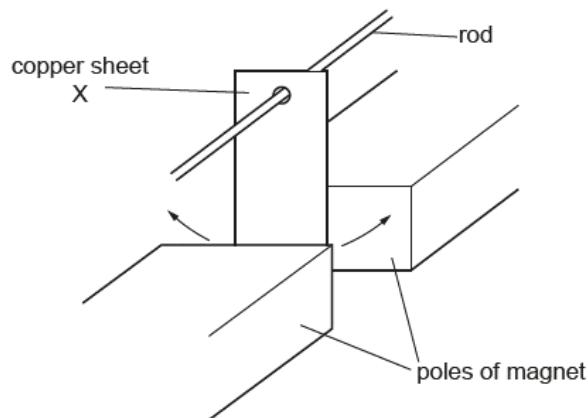

Fig. 7.3
- (b) A thin copper sheet X is supported on a rigid rod so that it hangs between the poles of a magnet as shown in Fig. 7.3.